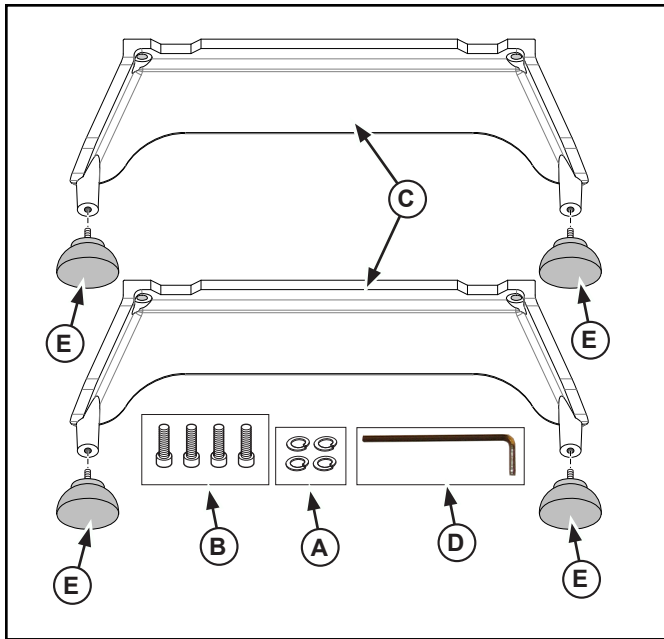

Figure 2. Legs, Hardware and Tool for the Fruit Cutter.
1. Install the rubber feet (E) on to the legs (C). See Figure 2.
2. Use the screws (A) and washers (B) to install legs (C) tightening with wrench (D).